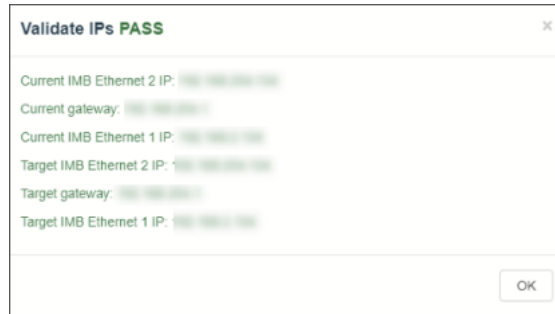

Figure 41: Validate IPs
7. If all of the IP values are valid, a pop-up window will be shown with the result as “PASS” along with the *Current* and *Target IP values* (as shown in **Figure 41**). If not, then the pop-up window will display the errors found in the new network configuration. Click on **OK** to exit.